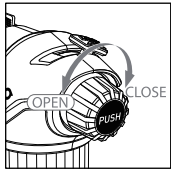

Fig.3
- Turn the **Gas Control / Ignition Button** counterclockwise approx. 1/2 turn to start the gas flow. (Fig.3)